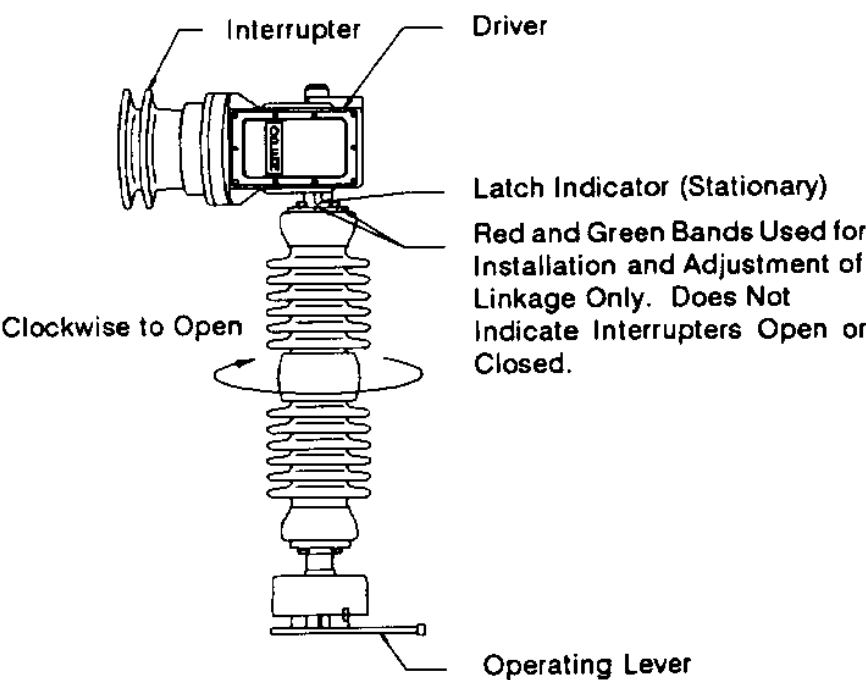

Figure 28 -- Opening Procedure 72-265-035-418
- 9. Rotate the pole units clockwise to the open position by pushing against the interphase levers and/or hand turning the insulators. When full open, there will be resistance to further rotation and the latch pointers will indicate in the green bands underneath the drivers. See Figure 28.